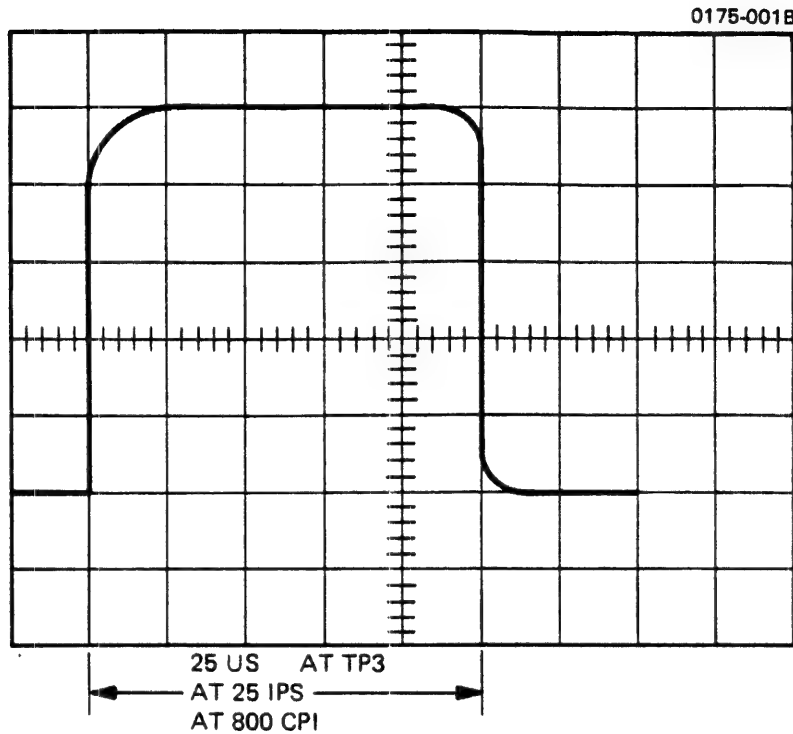

Figure 4-28. Read Strobe Delay Adjustment for Dual-Density Systems
- d. A positive pulse should be observed at test point TP13 as shown in Figure 4-28. Adjust potentiometer R12 for a pulse width of approximately one-half frame time. At 25 ips, this time should be 25 microseconds. Frame time is defined as  $\frac{1}{SD}$ ; where S is MTT tape speed in ips, and D is operating data density. Table 4-13 lists ½ frame time standard tape speeds.